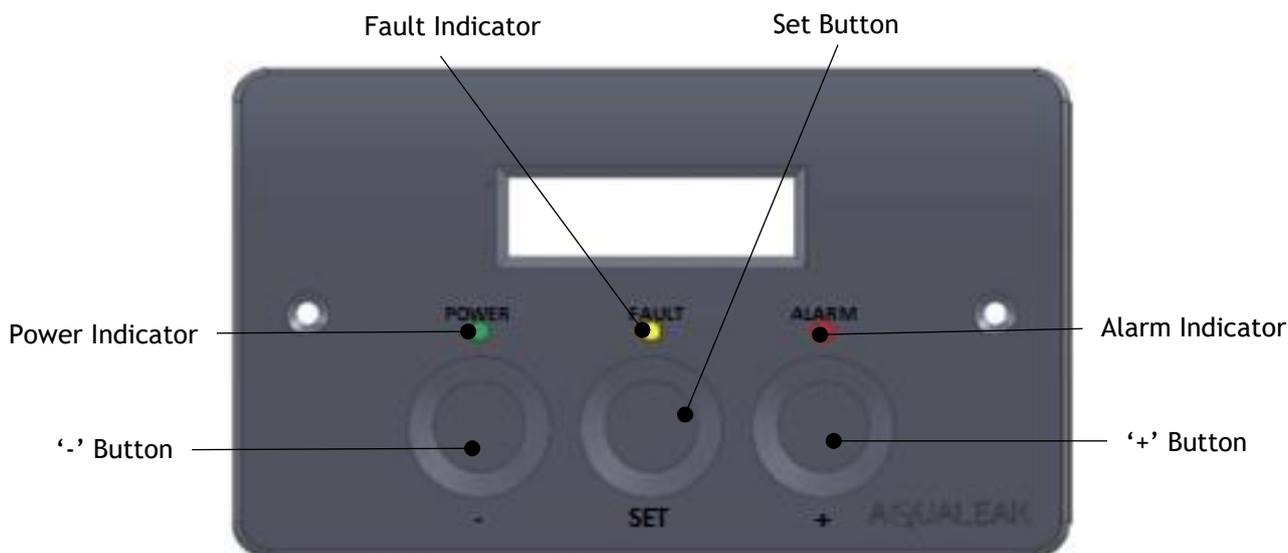

Figure 25: Front Panel of the AquaGuard Dual Water Leak Detection System
**System status** is displayed via **indicator LEDs** and **operation** is undertaken via **capacitive touch buttons** located at the front of the unit as shown in **Figure 25**.